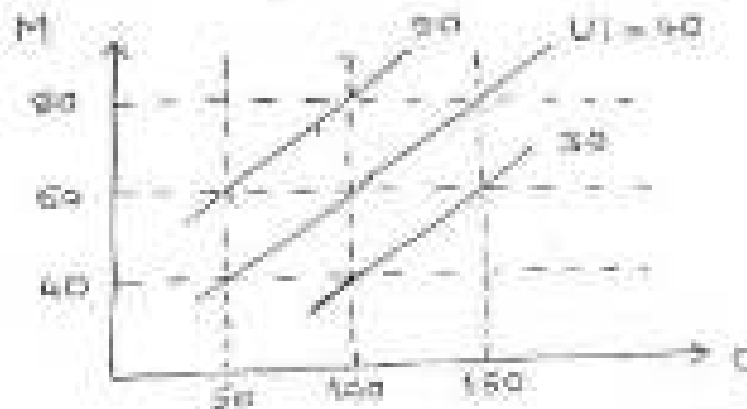

Figure 3-b
- h) The steady state operating curves for a system to be controlled are shown in figure 3-b. The reference operating conditions are  $V_1 = C_1 = 100$ ,  $U_1 = 40$  and  $M_1 = 60$ . Determine the values of  $K_1$  and  $K_2$ . Determine the required slope of controller lines such that when the load changes from 40 to 50, the output  $c$  will not change by more than 2 units. For  $K_1 = 1$  determine the value of  $A$  such that  $\dot{c} = 0$ , when  $\dot{u} = 0$ . [8]